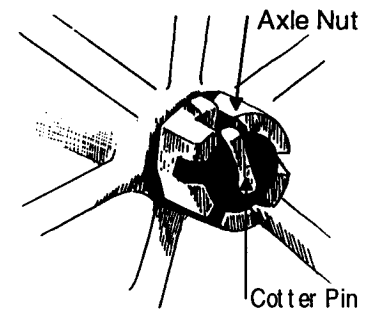

Figure 18
- Unbend the ears of the cotter pin on the axle nut and remove it (*Figure 18*).
2. Remove the cotter pin and the castellated axle nut (counterclockwise) (*Figure 18*).